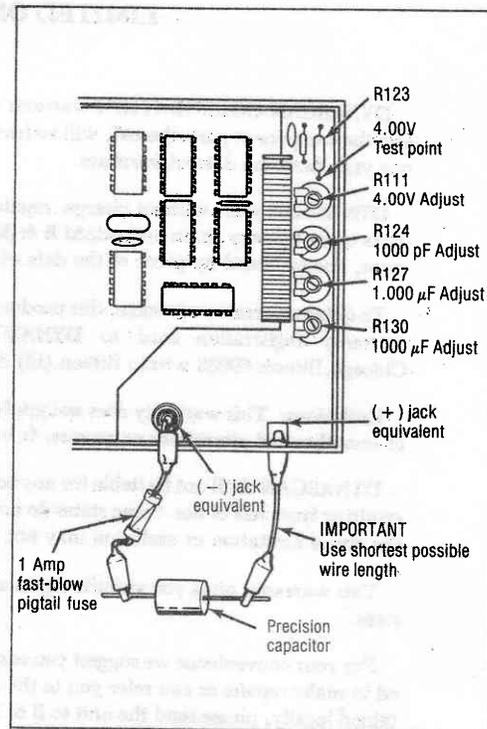

Fig. 6. Calibration adjustments
Four miniature alligator clips and a 1-amp fast-blow pigtail fuse wired per Fig. 6.
Perform adjustments only in the sequence listed. Locations of adjustments are shown in Fig. 6.
3. Measure the dc voltage at the 4.00 V test point (see Fig. 6) with respect to circuit common.
5. Connect the special, short test leads with 1-amp pigtail fuse as shown in Fig. 6 to the circuit board points equivalent to the (+) and (-) jacks, but without the precision capacitor.